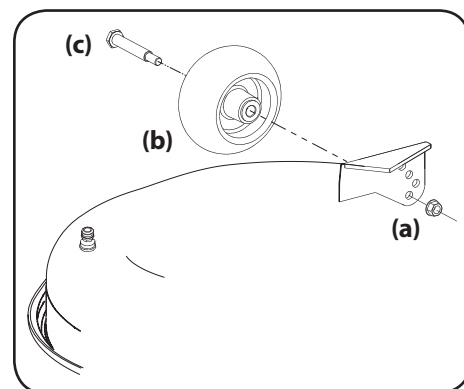

Figure 2-8
- a. Remove the lock nut securing one of the front gauge wheel shoulder screws to the deck. Remove the gauge wheel and shoulder screw. See Figure 2-8.